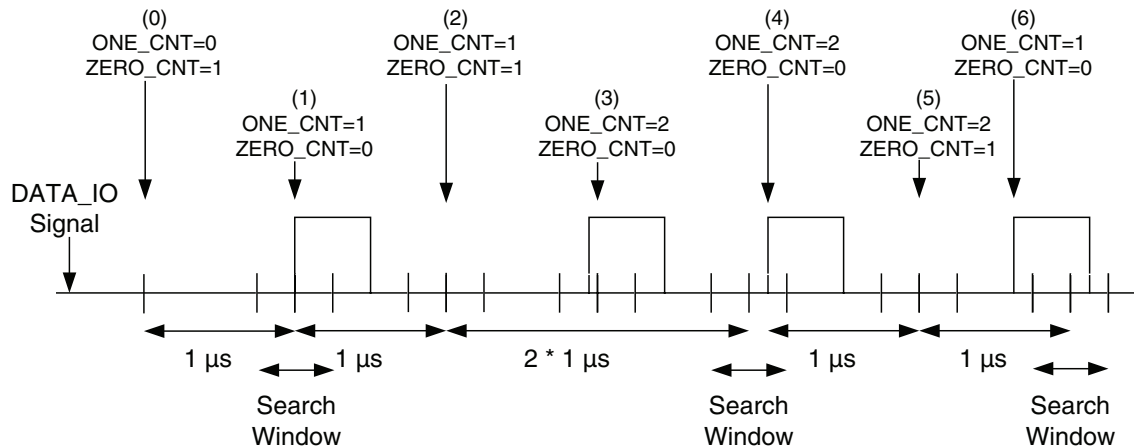

Figure 8. RFWaves Carrier Sense Example
should be an integer number ( $\geq 2$ ) of 1  $\mu$ sec. The number of consecutive "1" bits that obey this rule is counted in the following example (Figure 8) in ONE\_CNT counter. ONE\_CNT is incremented only if a "1" bit that comes after a "0" bit is received, where the time gap between the "1" bit and the preceding "1" bit is as mentioned above. If the time difference between two consecutive "1" bits is out of the allowed deviation, then the ONE\_CNT is reset. ONE\_CNT is also reset if the number of consecutive "0" exceeds  $(\text{CSR}(4:7) \times 2) + 2$ , where CSR is the Carrier Sense Register (see 0 Carrier Sense Register (CSR)). The number of consecutive "0" bits from the last "1" bit received is counted in ZERO\_CNT. ZERO\_CNT is reset each time "1" bit is received.
In the example shown in Figure 8, at time (1) a new "1" bit is received after a "0" bit was received. Thus, CNT\_ONE equals 1 and ZERO\_CNT is reset to 0. At time (2), a "0" bit is received, so the ZERO\_CNT is incremented. At time (3), a "1" is received after a "0" bit was received. Thus ONE\_CNT is incremented and ZERO\_CNT is reset. At time (4) a "1" bit is received after a "1" bit, thus there is no change in any counter. At time (6) a "1" bit is received out of the allowed window, so ONE\_CNT is reset to 1. CSR register is used to configure the carrier sense algorithm sensitivity. CSR register determines the number of "1" bits that are required in order to decide that a carrier exists. CSR also determines the number of successive "0" bits that reset the carrier sense state machine. In SSR register, bit CS notifies whether a carrier was identified. Carrier sense can also be used as an interrupt. When CS in SSR goes from '1' to '0', i.e. the transmission has stopped and a CS interrupt is